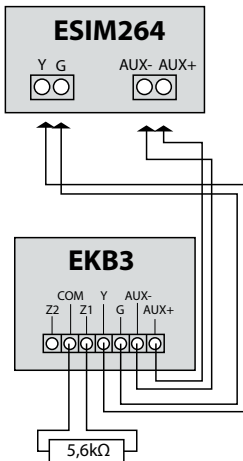

Fig. No. 19
3. Wire up keyboard contacts to ESIM264 alarm system respectively – **AUX+ to AUX+, AUX- to AUX-, Y to Y, G to G.** (see Fig. No. 19).
4. Z1 and COM contacts must be connected with resistor of 5,6kΩ nominal (see Fig. No. 19). As keyboard zone Z1 is disabled by default, it can be enabled by SMS, *ELDES Configuration Tool*, EKB2 and EKB3 keyboard. Z2 contact is permanently inactive. Keyboard zone Z1 must be enabled and resistor connected even if the tamper button alone is required.